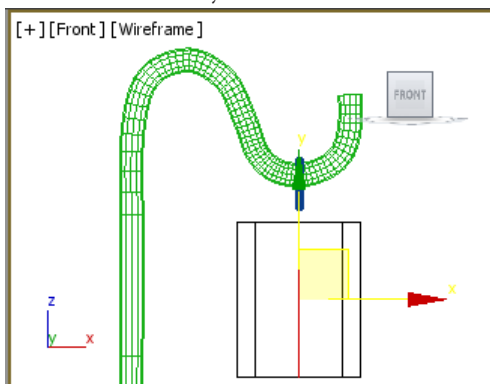

Figure 5-31 The edge selected
6. Click on the plus sign in the modifier stack; all sub-object levels are displayed. Select the **Edge** sub-object level. Now, activate the Front viewport and select the edge, as shown in Figure 5-31.